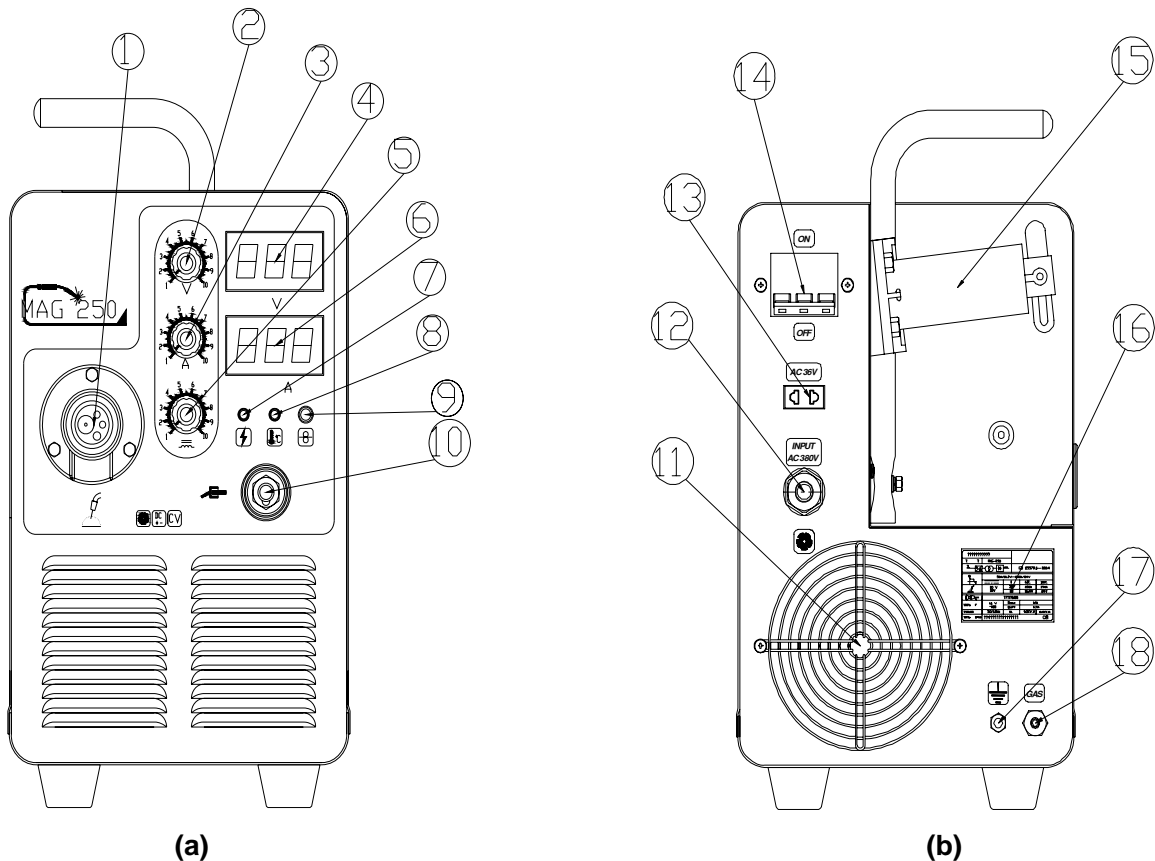

Figure 3.1 Panels of MIG 250(J04) series
1.1 Front panel (see Figure 3.1-a)
1.2 Back panel (see Figure 3.1-b)